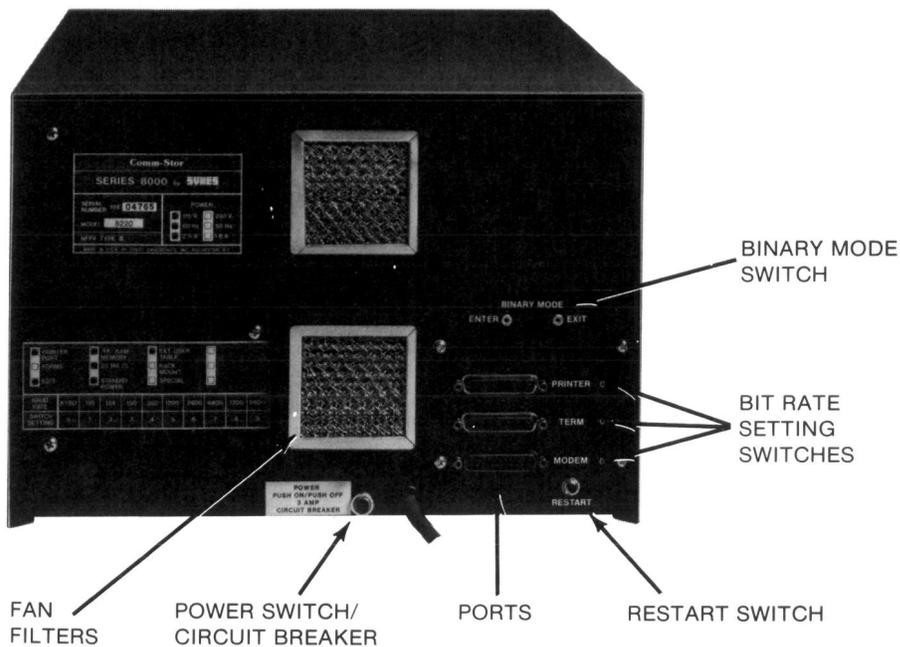

Fig. 5—Rear View of the Comm-Stor II/SMDR Unit
8.01 The terminal, Dimension PBX, and data set are connected to the Comm-Stor II/SMDR unit via industry standard connectors on the rear of the unit (Figure 5). These connectors commonly called "ports", conform to the Electronic Industries Association (EIA) specification RS-232C.